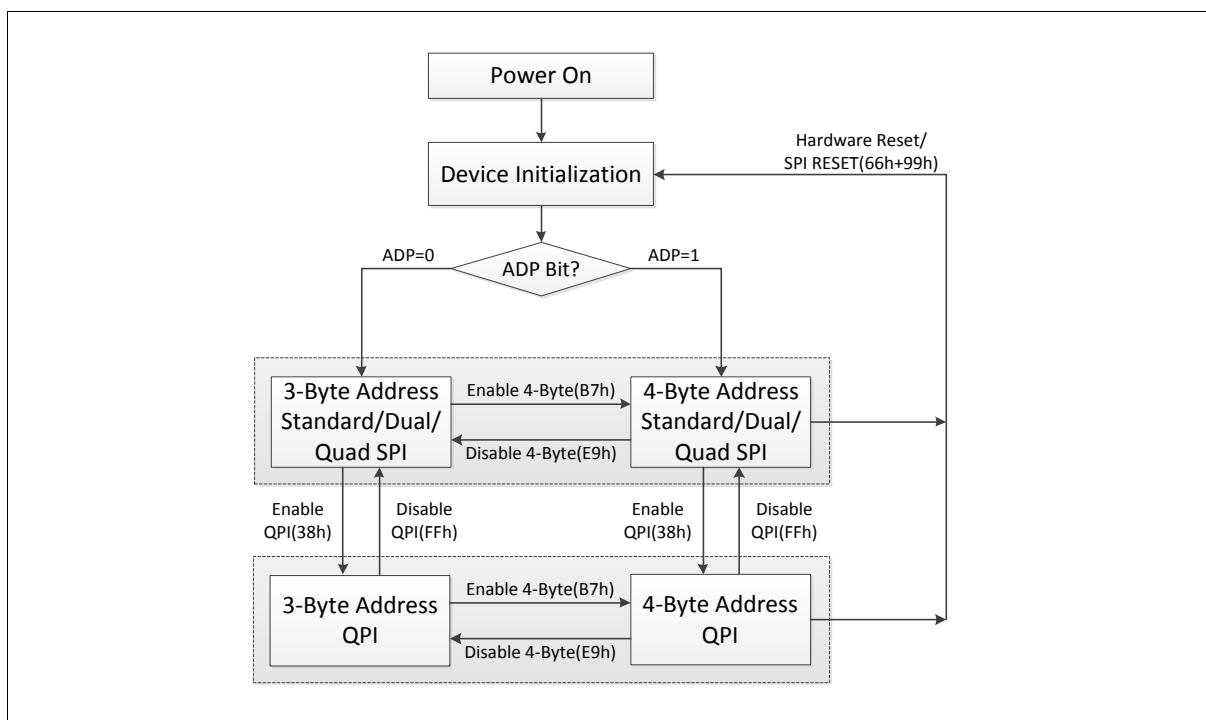

Figure 6 Operation Diagram
The FM25Q256I3 supports Quad Peripheral Interface (QPI) operations only when the device is switched from Standard/Dual/Quad SPI mode to QPI mode using the “Enable QPI (38h)” instruction. The typical SPI protocol requires that the byte-long instruction code being shifted into the device only via DI pin in eight serial clocks. The QPI mode utilizes all four DQ pins to input the instruction code, thus only two serial clocks are required. This can significantly reduce the SPI instruction overhead and improve system performance in an XIP environment. Standard/Dual/Quad SPI mode and QPI mode are exclusive. Only one mode can be active at any given time. “Enable QPI (38h)” and “Disable QPI (FFh)” instructions are used to switch between these two modes. Upon power-up or after a software reset using “Reset (99h)” instruction or hardware reset, the default state of the device is Standard/Dual/Quad SPI mode. To enable QPI mode, the non-volatile Quad Enable bit (QE) in Status Register-2 is required to be set. When using QPI instructions, the DI and DO pins become bidirectional DQ₀ and DQ₁, and the WP# and HOLD# pins become DQ₂ and DQ₃ respectively. See Figure 6 for the device operation modes.